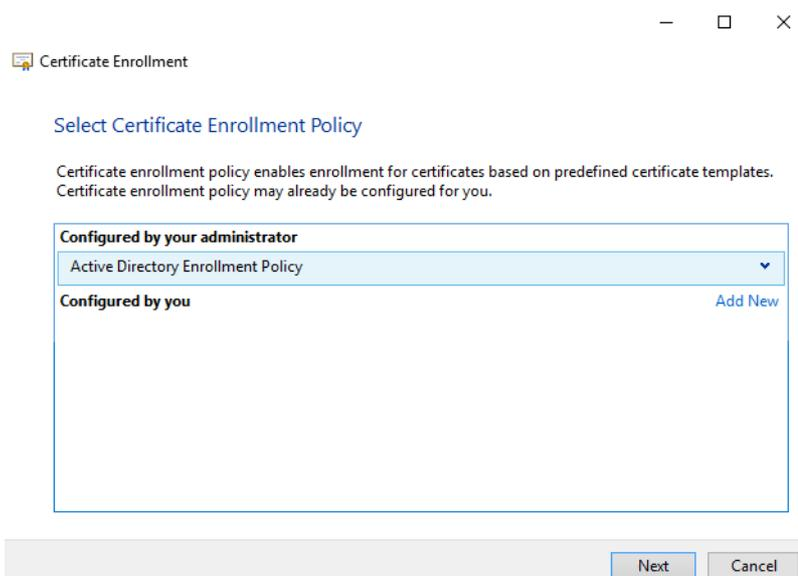

Figure 2-35. Selecting Certificate Enrollment Policy
5. Select the certificate enrollment policy, see Figure 2-35.